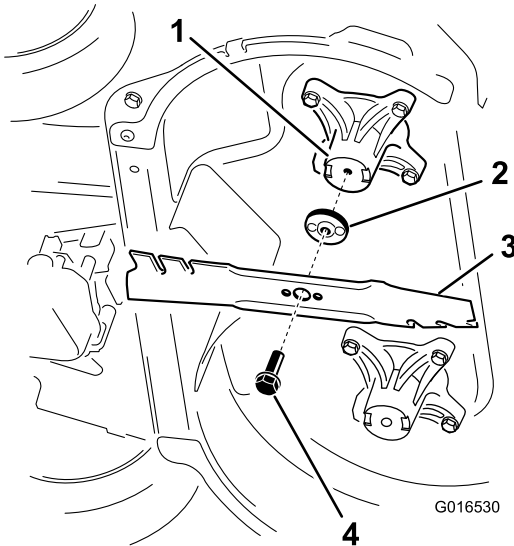

Figure 41
2. Remove each blade as shown in Figure 41.
1. Install the first blade so that it is horizontal, along with all mounting hardware as shown in Figure 41.